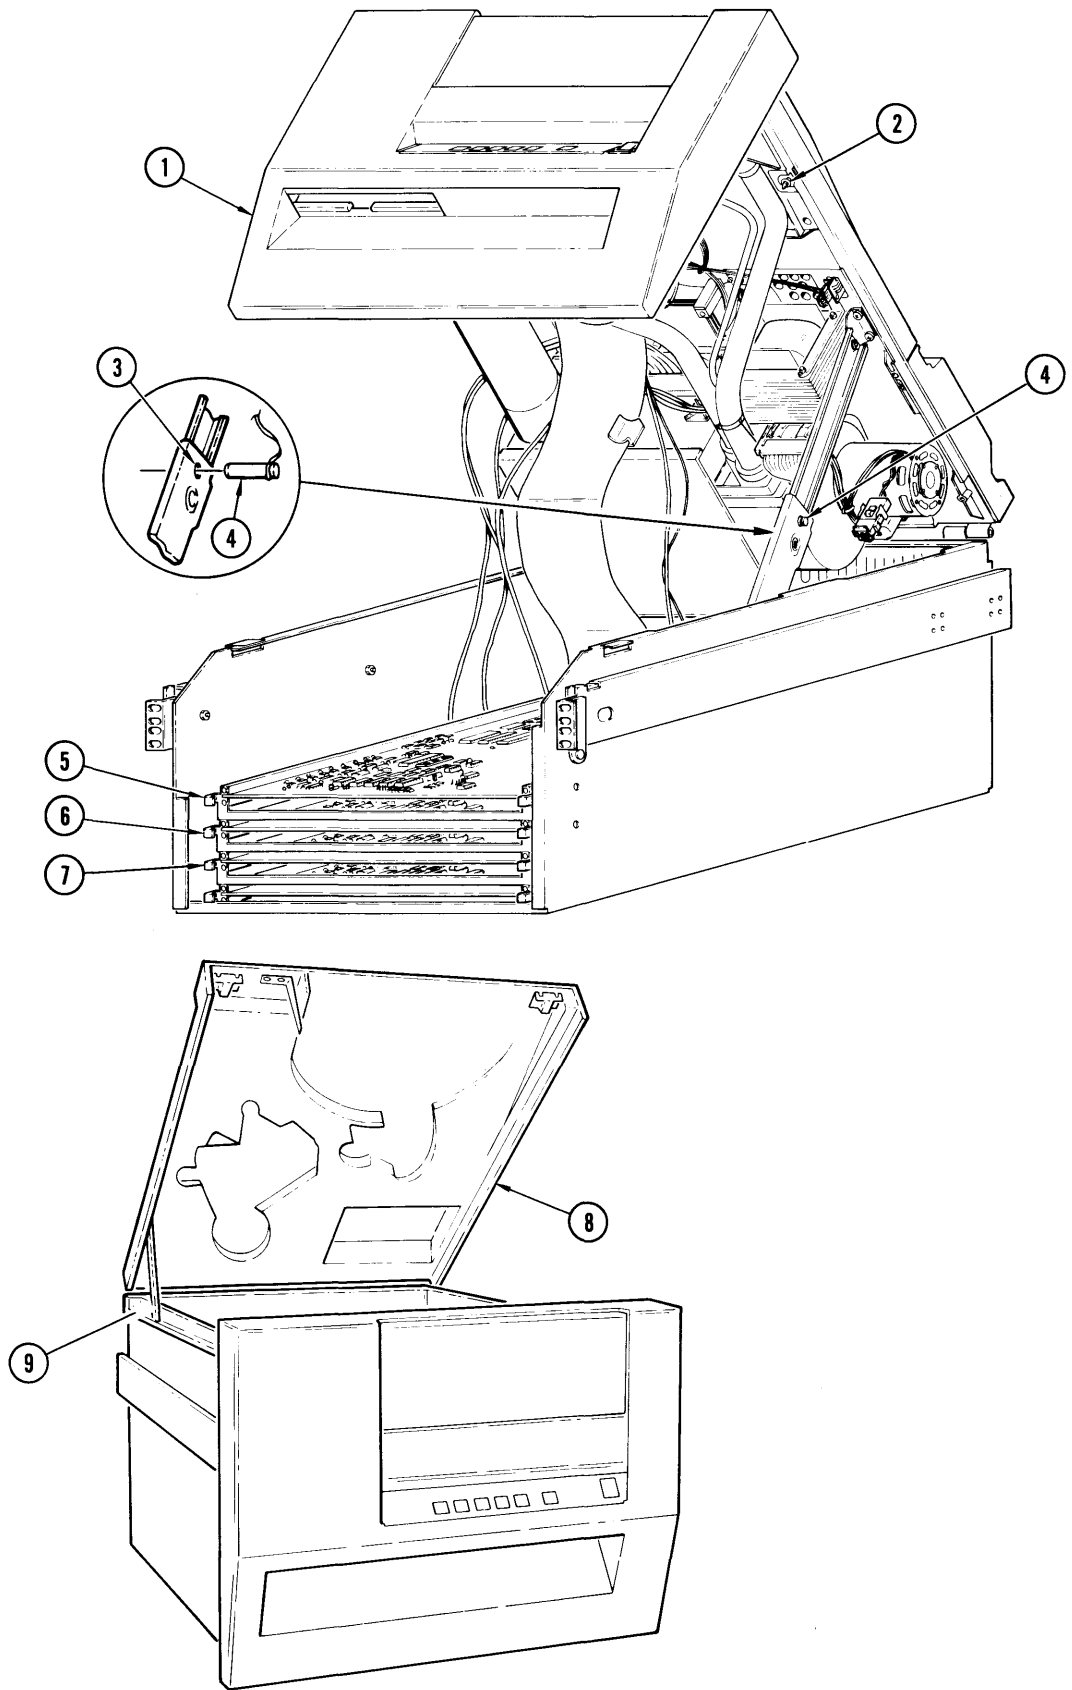
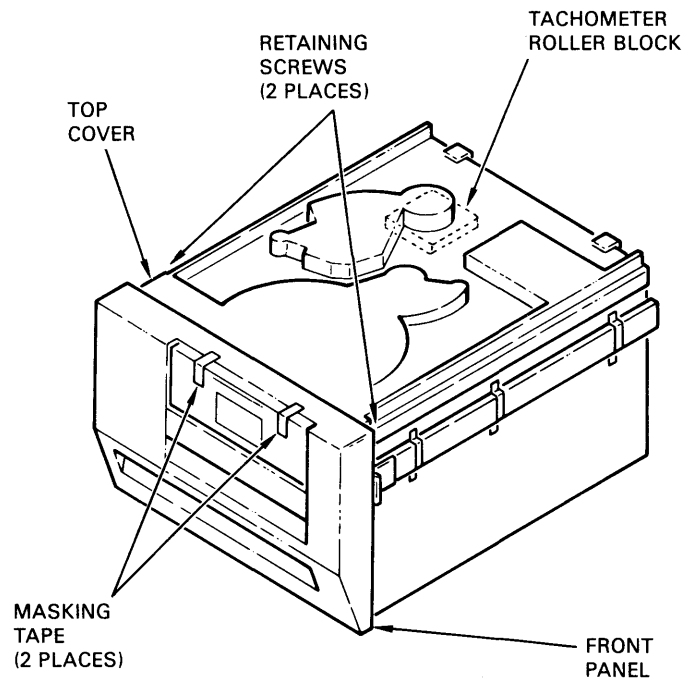

Figure 3.
Figure 4.
19. Loosen the two spring-loaded screws (2) on both sides of the base plate. See Figure 3.
21. Lift up on the two lower corners of the front panel to its maximum position. The latch mechanism locks in an upright position. Install the locking pin (4) provided.
Insert the provided locking pin (4) into the hole (3) in the tape unit support arm. Never service the tape unit in the service position unless you install the locking pin. See Figure 3.
23. Lift the Sensor/Servo PWB (5) and frame assembly upward and rearward to lock in the raised position.
25. Repeat step 23 with the CPU/MMU PWB (6) and remove the foam sheet.
26. Repeat step 23 with the Data PWB (7) and remove the foam sheet.
28. Return front panel to its original position and tighten the two spring loaded screws (2) on the top base plate.
2. Open the top cover and install the Tach Roller Block on the take-up hub. See Figure 4. Loosen the chassis retaining screws and place the drive in the service access position. Use the support pin; see Figure 3. Insert the three thin foam pads in between the PWBs; insert the two foam blocks between the PWBs and the chassis, one on each side of the PWBs. Remove the safety pin, close the drive, and tighten the retaining screws.